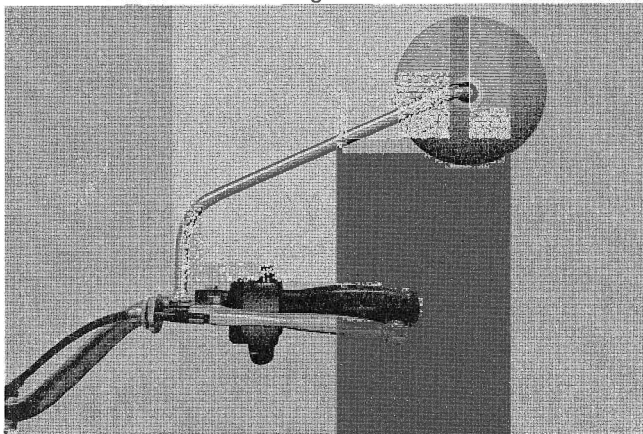

Fig. 33
- b) Adjust for proper rear view. (Fig. 33)